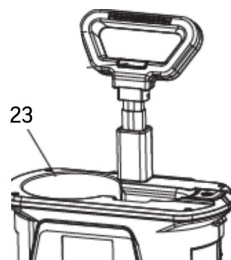

Fig. 14
7. When results are desired, toggle the on/off switch to the "off" position and place the sprayer on sprayer dock (#22) (Fig. 14).